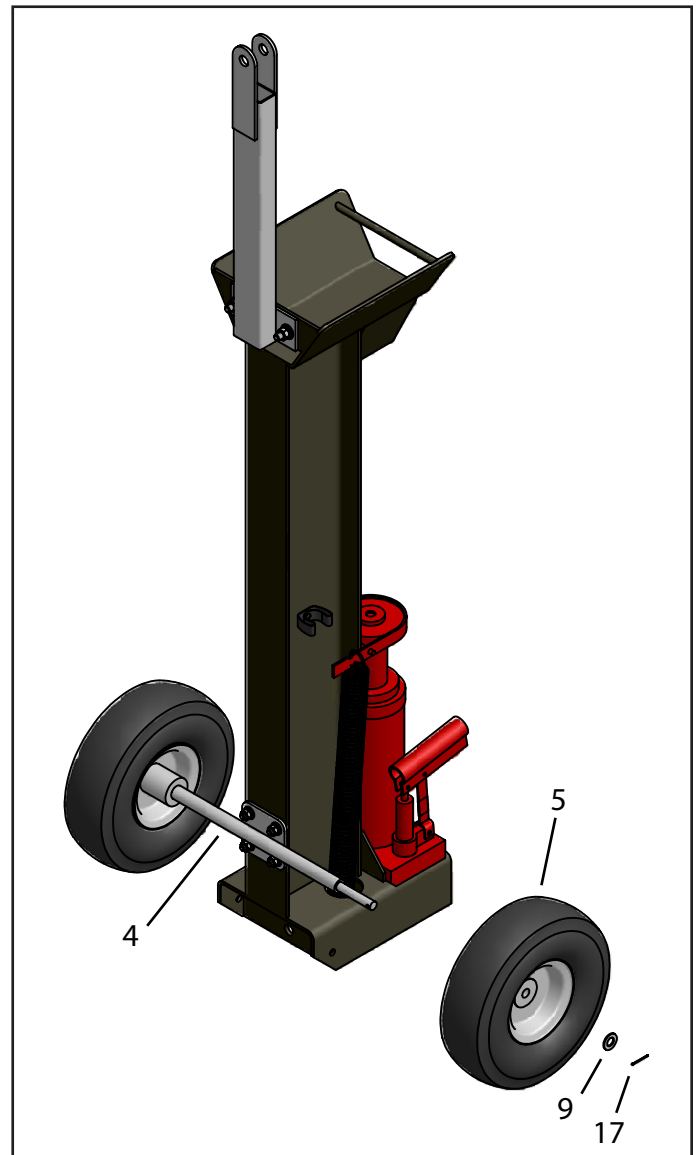

FIGURE 2
4. Slide the Wheel (5) on to the Axle Assy (4) with the long hub facing inwards. Slide a 1/2" Flat Washer (9) onto the outside of the axle. Secure with Cotter Pin (17) and bend the ends with a pair of pliers. Repeat for other wheel. (Figure 2)